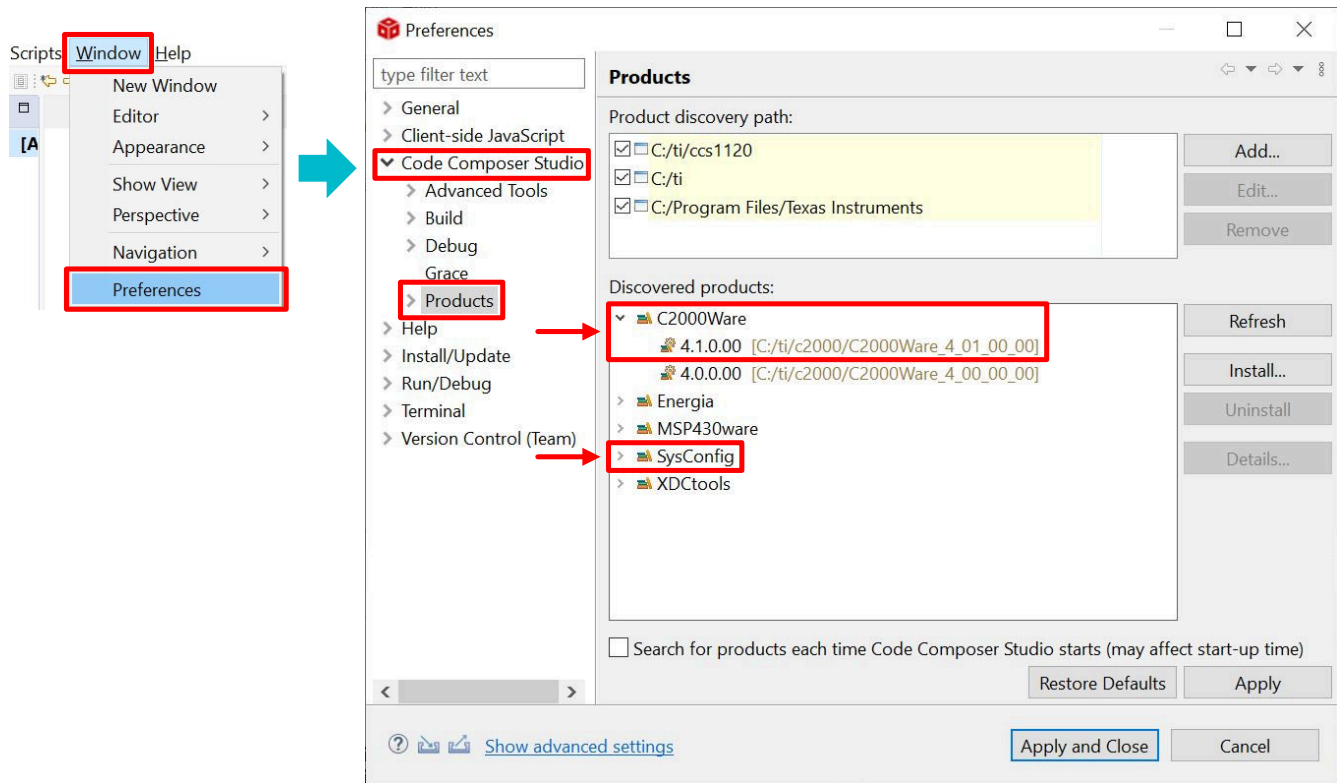

Figure 2-2. Verification of C2000Ware 4.1.0.00 (or later version) Installation
- b. Make sure that there is "C2000Ware 4.1.0.00" (or later version) and "SysConfig" (SysConfig should be installed automatically when you install C2000Ware) under the "Discovered products", as is marked in Figure 2-2. If there is no "C2000Ware 4.1.0.00" (or later version) or "SysConfig" appearing, you may need to click "Refresh" on the right side of the "Preference" window. If still unavailable, check whether the installation is correct. A standalone desktop version of SysConfig can be found at SYSCONFIG System configuration tool.